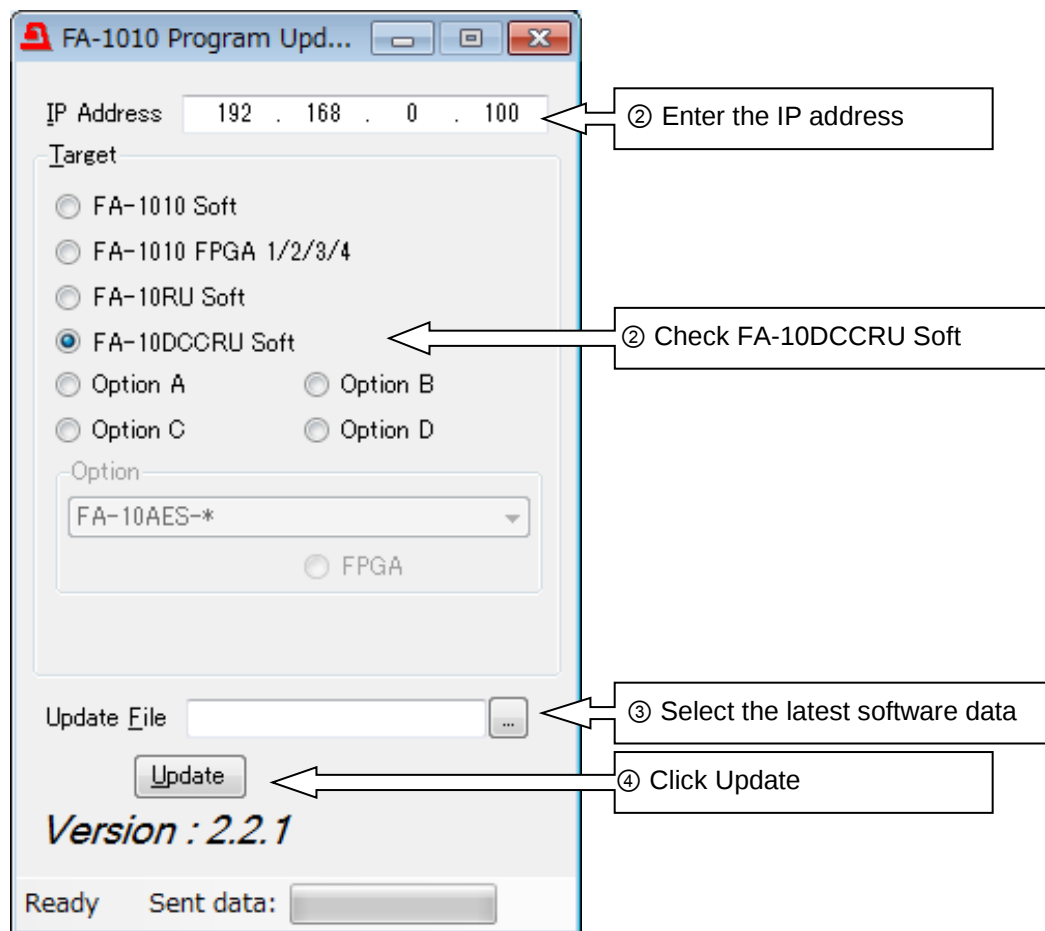

Fig. 19 FA-1010 Program Updater dialog
3. Enter the IP address. (default IP address: 192.168.0.100) (Fig. 19 ①).
4. Check **[FA-10DCCRU Soft]** under **[Target]** (Fig.19 ②).
5. Select the latest version software under **[Update File]** (Fig. 19 ③).
6. Click **[Update]** to start updating (Fig. 19 ④).